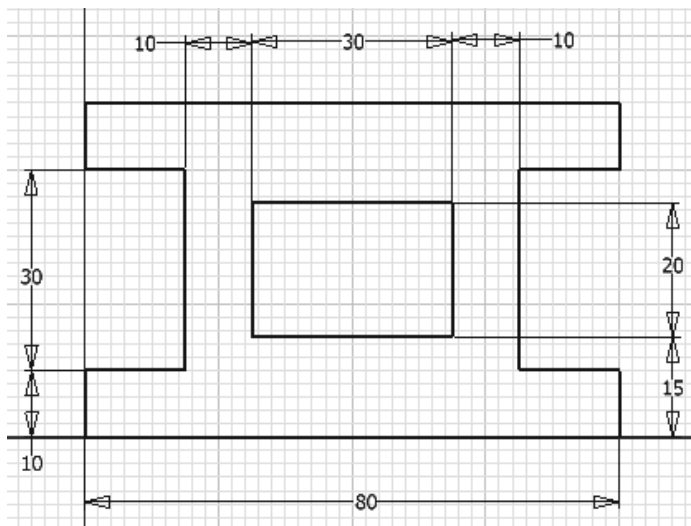

Figure 3-48 Fully constrained sketch for Tutorial 1
- e. Dimension the sketch using this point to fully constrain it, refer to Figure 3-48.
Figure 3-48 shows the fully constrained sketch for Tutorial 1.